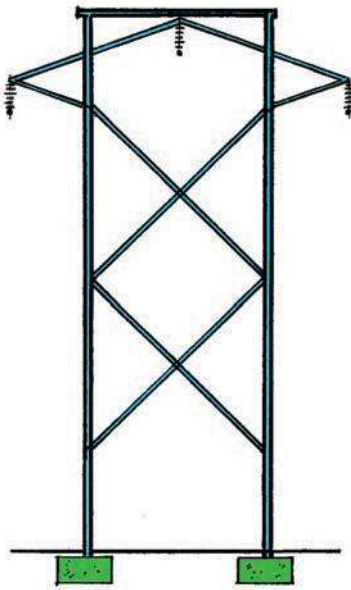
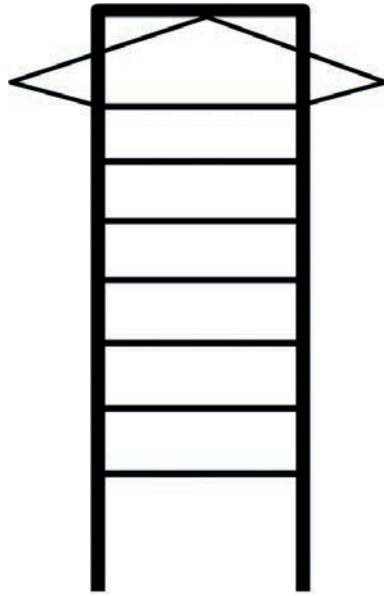
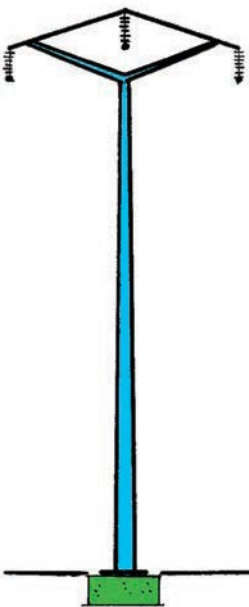

Figure 2
Figure 3
Figure 4
1. What purposes do these structures serve? Why do we build them? (1)
2. Why do you think the pylon in Figure 2 is designed the way it is, and not in the way shown in Figure 3?
The pylons in Figures 4 and 6 are solid structures made from concrete. All the other pylons are steel frame structures.
3. What do you think is indicated by the green parts at the bottom of the structure (solid blocks) in Figure 2 and Figures 4 to 7? (1)